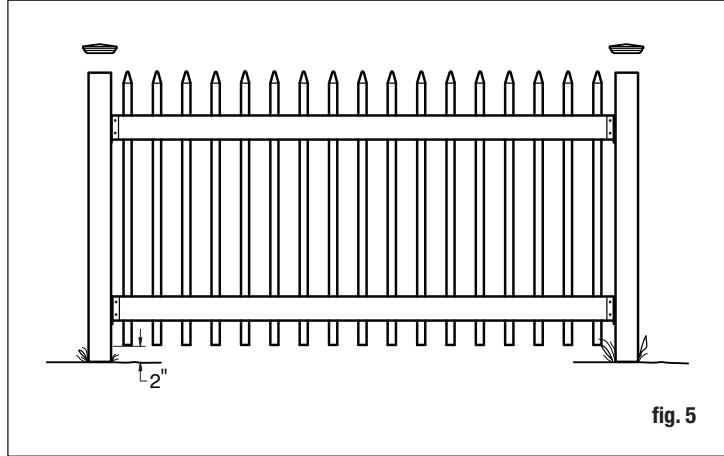

fig. 5
- Starting at a corner, mix concrete in the first hole per the instructions on the bag. Mix thoroughly and install the post into the hole and tap the post to the proper depth. Measure to be sure you can install the finished panel to the post with approximately a 2" gap from the ground to the bottom of the panel. You may also need to leave a space from the highest point of the panel to the top of the post (fig. 5). The spacing allows the cap to be installed on top of the post without interference with the top rail.